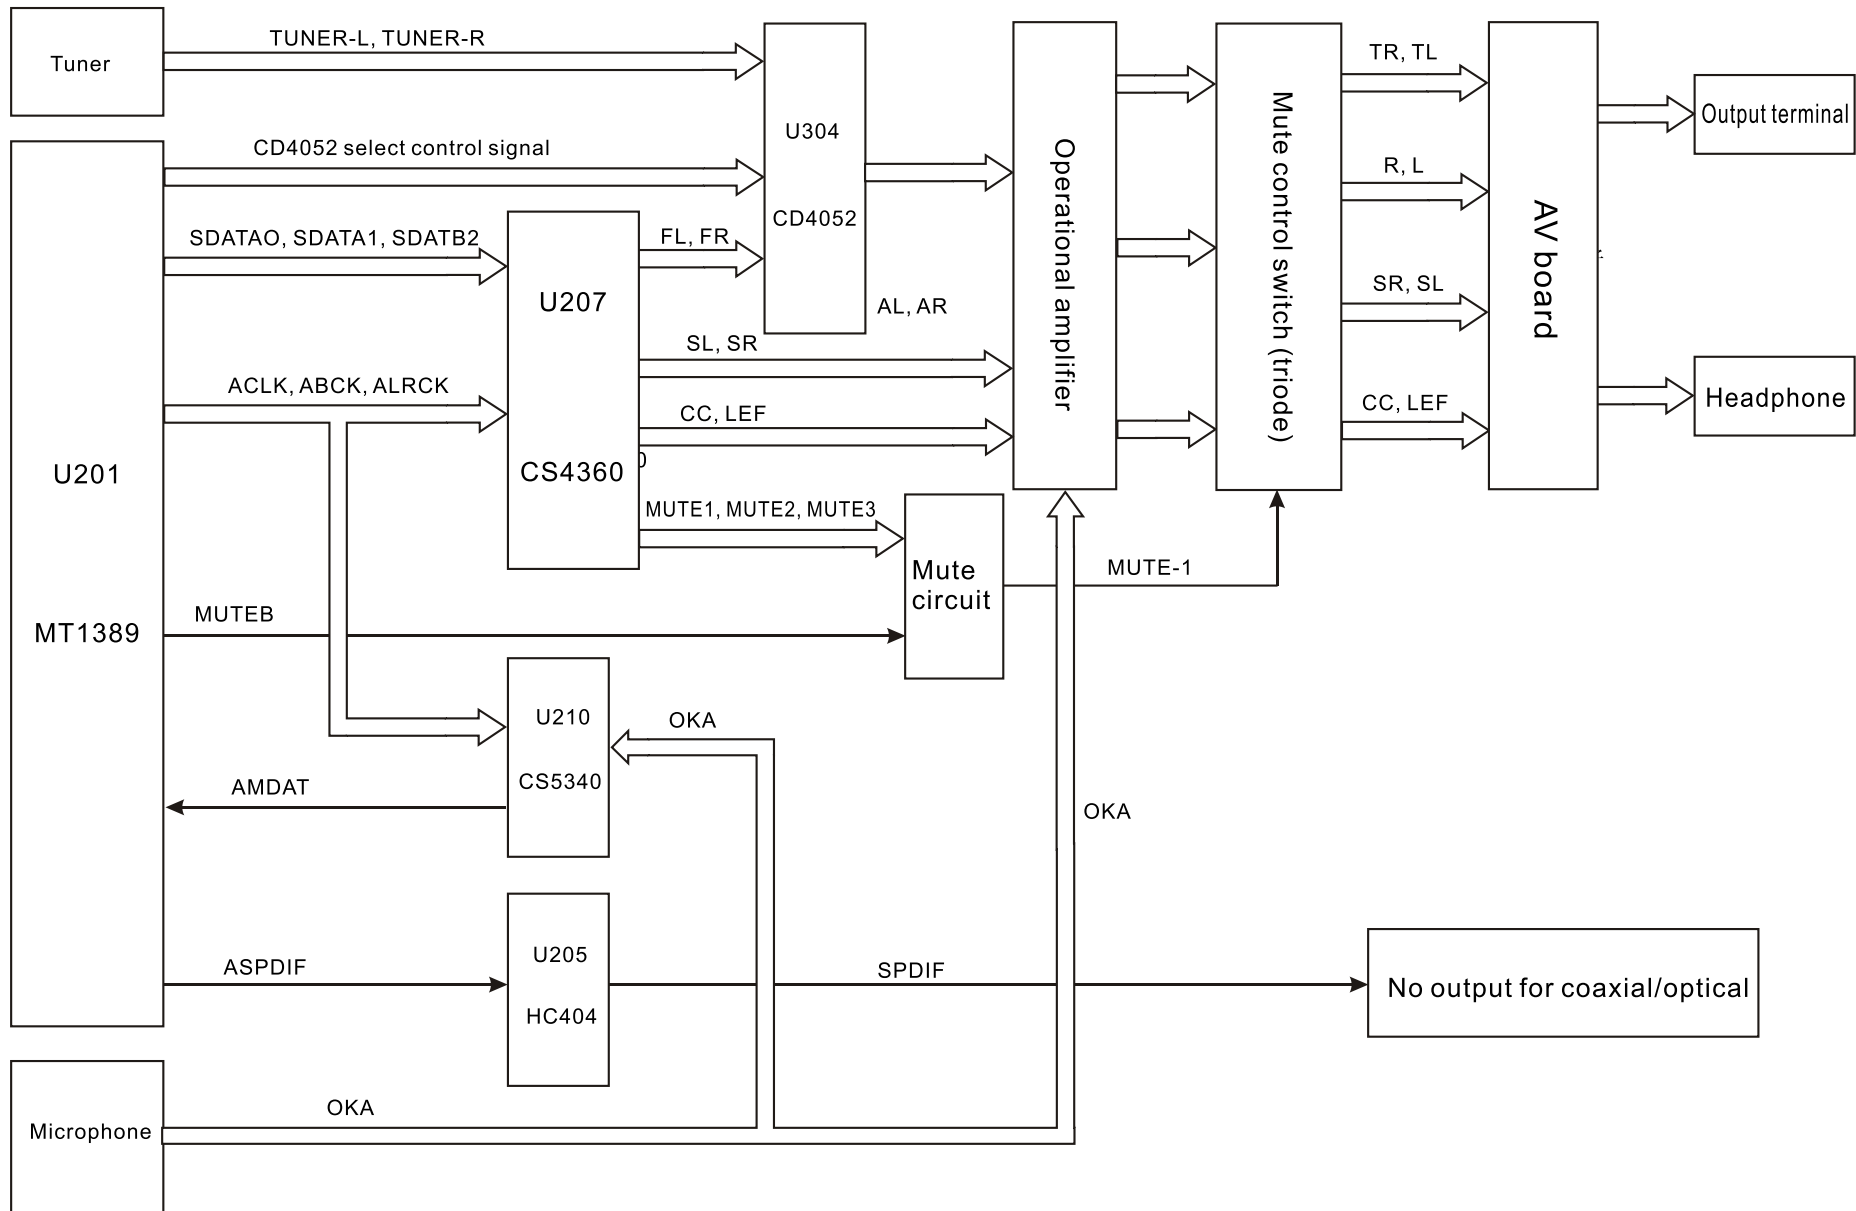

Figure 3.2.11.2 Functional block diagram for audio circuit
5. Troubleshooting for "No signal output for left/right channel when playing disc" is shown as the figure 3.2.11.3: